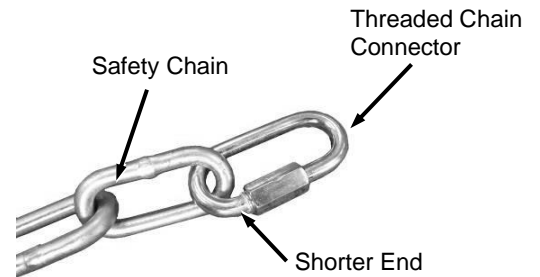

Figure 25
1. Attach a Threaded Chain Connector to the end of each safety Chain and tighten with a 10 mm Wrench (Figure 25).
**Note:** To attach the Chains in Step 3, position the Chain Connector so that the shorter end is on the side connected to the Safety Chains (Figure 25).